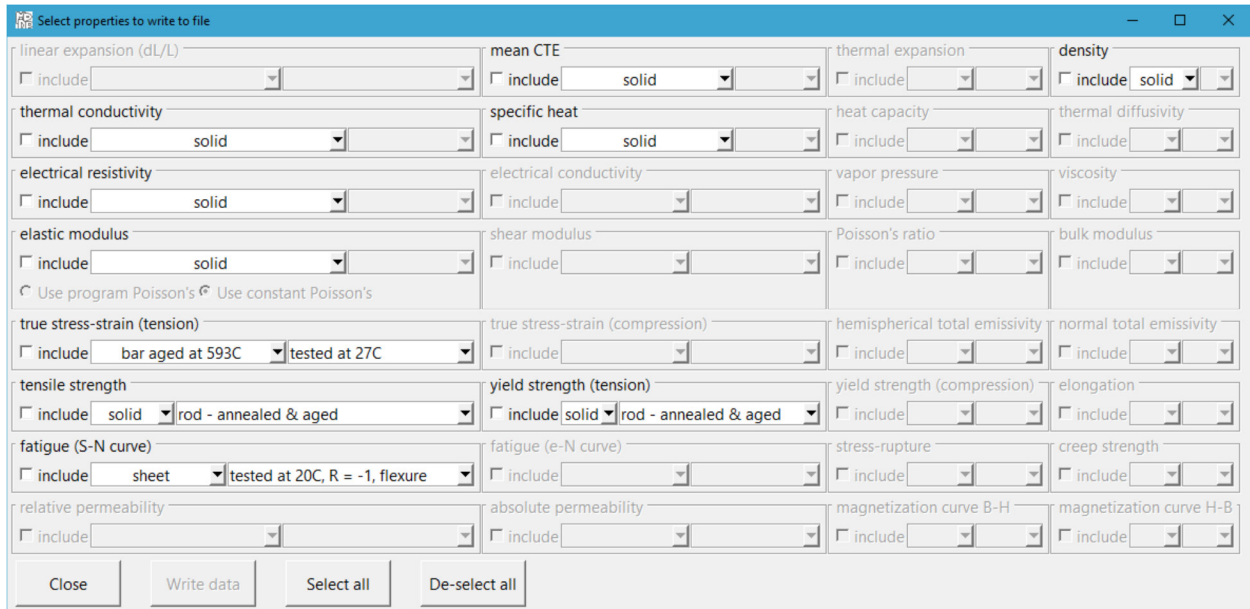

Figure 9.
- VIII. The window shown in Figure 9 will pop-up and you can select the properties you want to add. You can combine (mix-and-match) properties from more than one material in the MPDB database to a single material in your XML database. If the